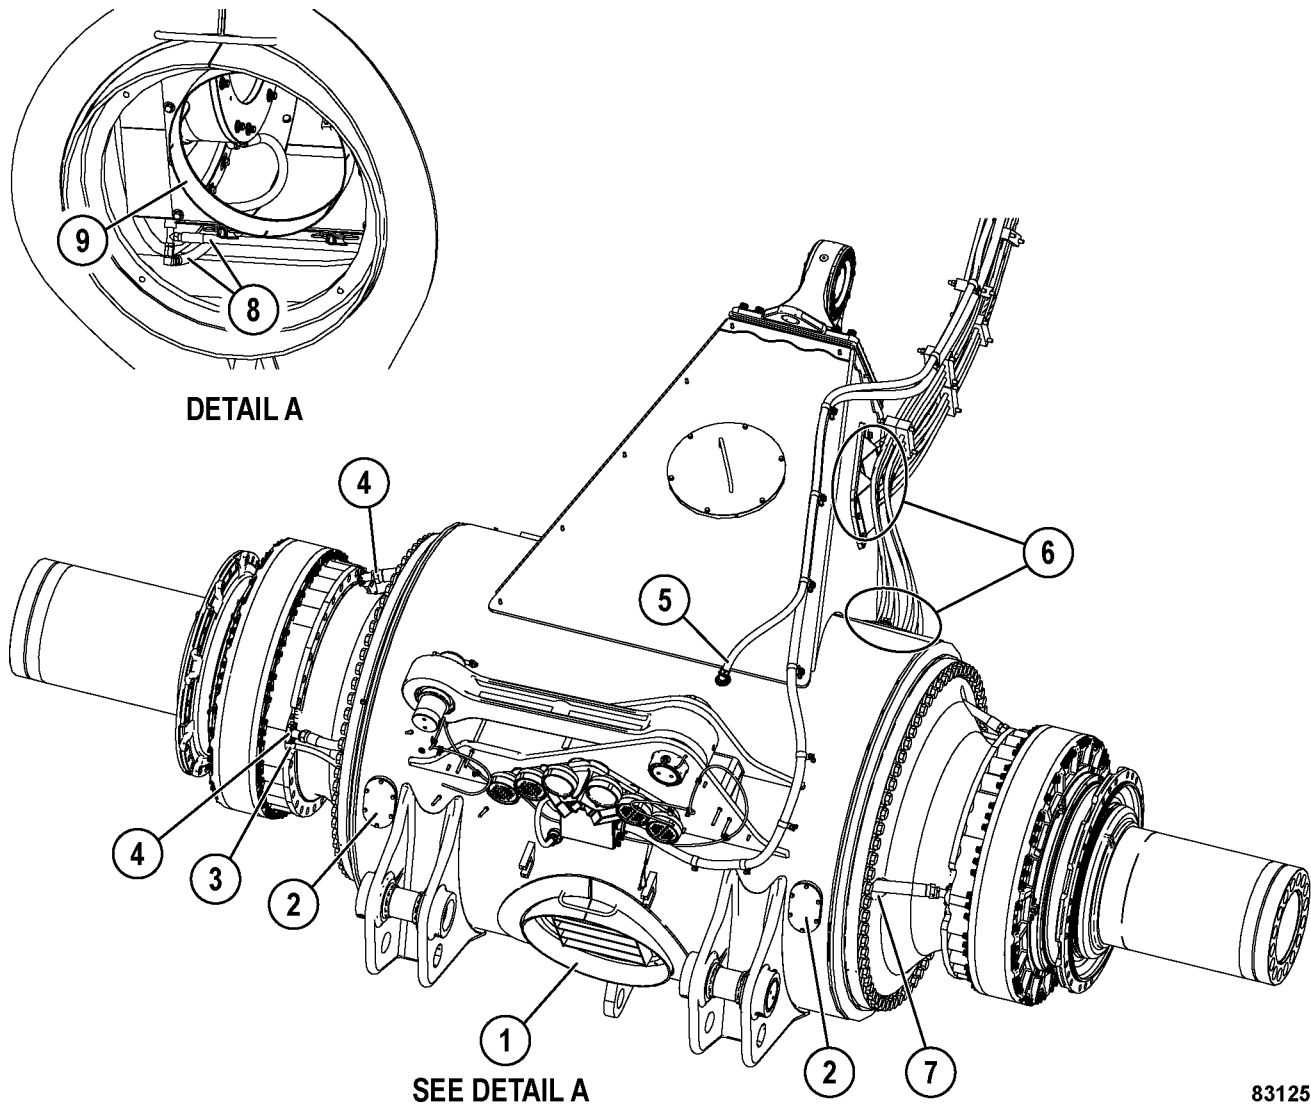

FIGURE 5-5. WHEEL MOTOR INSTALLATION
***The wheel motors must be properly aligned before installing them onto the rear axle housing. The wheel motor has markings which help determine installation orientation. Two sets of dimples are located at the 3 o'clock and 9 o'clock positions. A centerline symbol marks the 12 o'clock position of the wheel motor. Refer to Figure 5-5.***